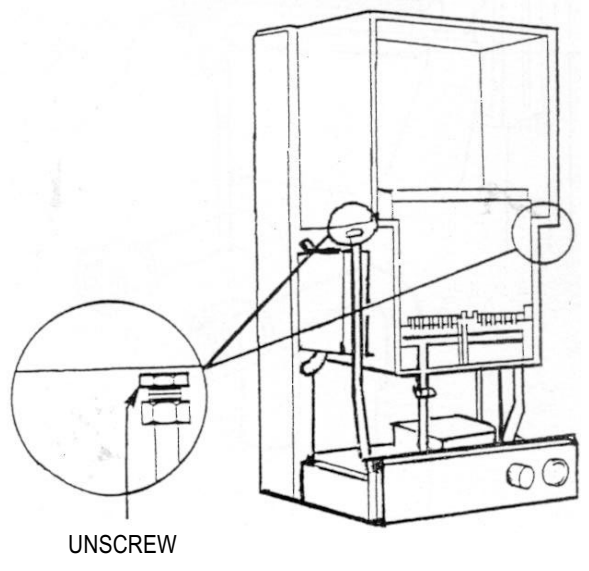

Fig. 63
- 7.8.11 Remove the two side insulation panels at top of heat exchanger (Fig. 63).
**7.9 TO REMOVE/REPLACE COMBUSTION CHAMBER INSULATION PANELS (Fig. 63).**